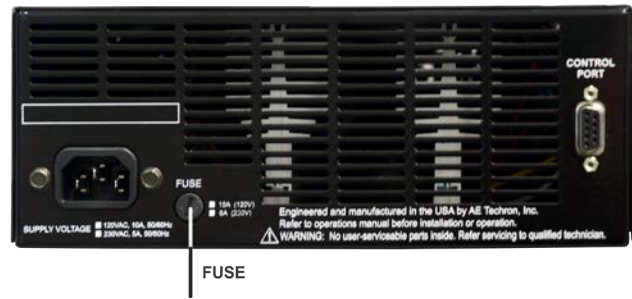

Figure 8.3 – 7114/7118 Fuse Location
1. Locate the fuse housing cover on the product's back panel (see **Figure 8.3**).